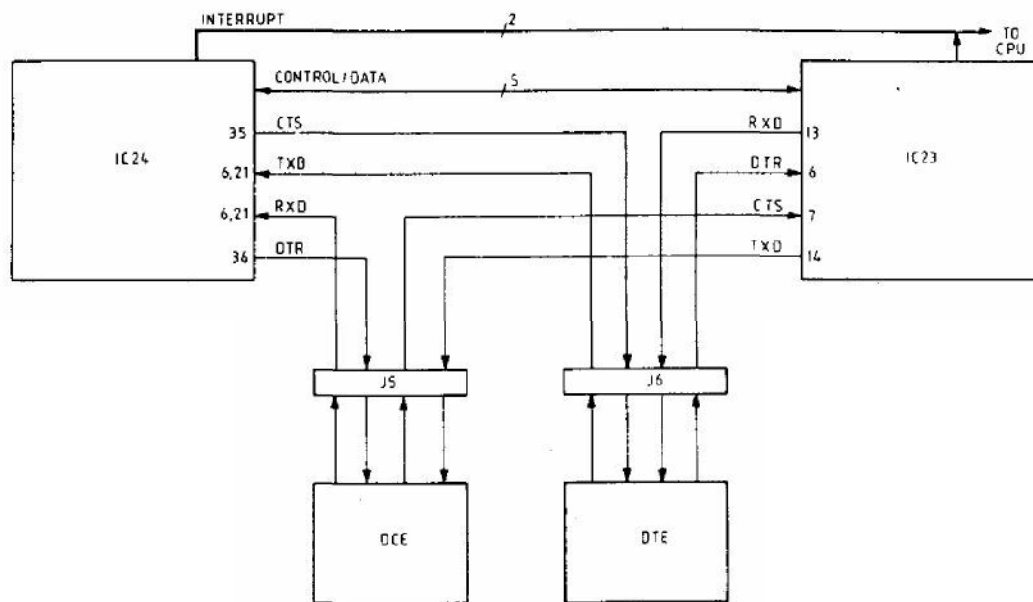

FIGURE 1.1 RS232 LINK
- 4.7 J5 and J6 are two RS232 connectors. J6 is connected so that the device connected to it may act as the Data Terminal Equipment (DTE) which originates the Data Terminal Ready (DTR) signal. J5 connects to the Data Communications Equipment (DCE) i.e. the local QL assumes DTE status. Figure 1.1 illustrates this schematically.